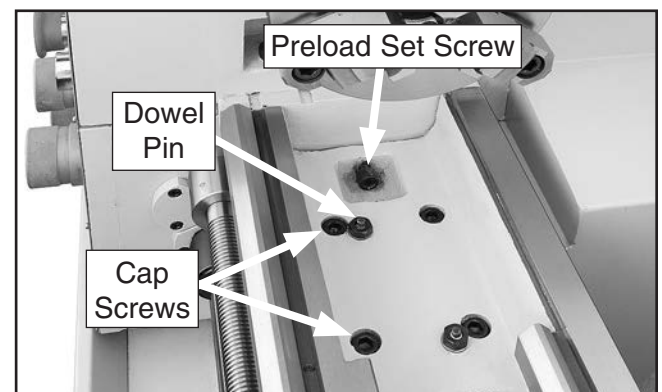

Figure 113. Gap retaining fasteners.
2. Remove the four cap screws that secure the gap to the bed (see **Figure 113**).
3. Tighten the dowel-pin jack nut (see **Figure 113**) to draw the pins from the gap.
4. Loosen the preload set screw (see **Figure 113**) a few turns until it no longer contacts the headstock.